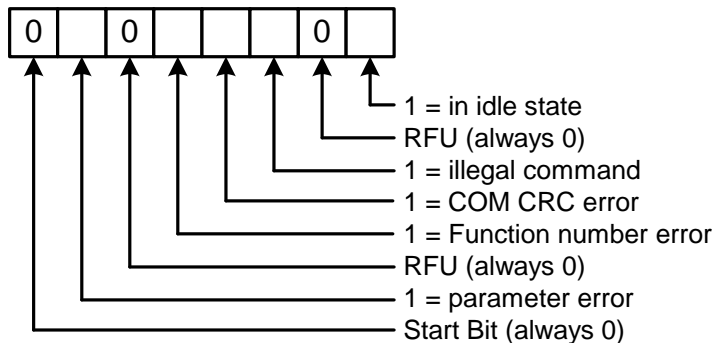

Figure 3-7 : Modified R1 Response
- Modified R1: The SPI R1 response byte as described in the Physical Layer Specification modified for I/O as described in Figure 3-7.